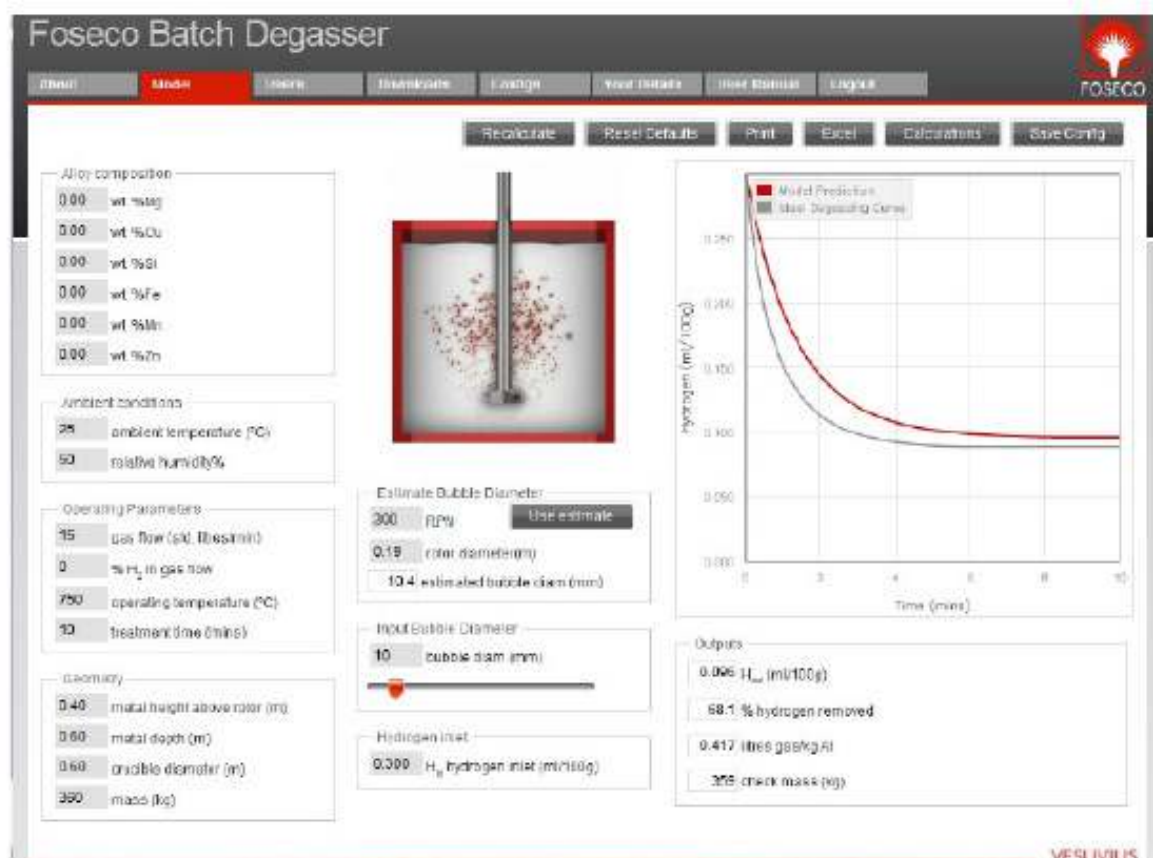

Figure 7
**FOSECO Degasser Model** is a mathematical model that simulates this equilibrium process of Hydrogen pick up and removal by degassing process, while taking in to consideration all the above parameters. It is based on the first principles and provides the user with a plot of the degassing time against the Hydrogen level, allowing them to decide upon the best combination of productivity and desired gas levels. A typical screen shot of the output of the simulation is as given in Figure 7